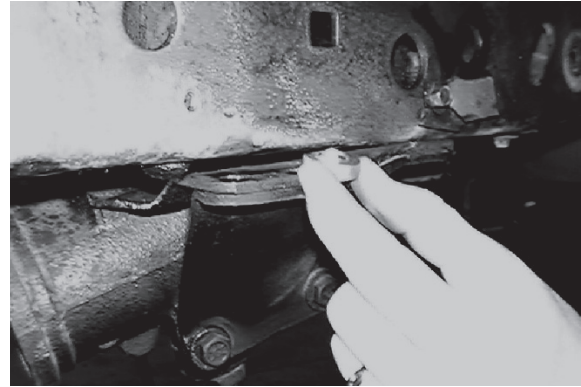

FIGURE 3
3. **Remove the front shackle hangers**. On the driver side, insert the 1/4" X 5/8" spacer into the gap between the frame and the steering box bracket as shown in Figure 3. This is the space that the shackle hanger used to take up. Then reinstall the bolts for the steering